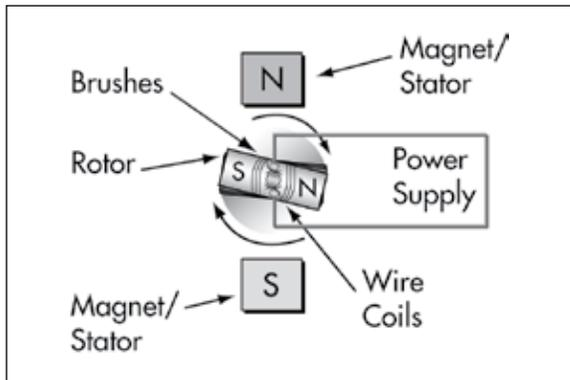

Figure 3- DC motor
Direct current (DC) motors are simple to operate and do not rely upon a control circuit. Simply attach a DC power supply to the DC motor and it will run. However, precisely controlling the motion, speed and position of DC motors is difficult. DC motors do not make finite steps and need additional components to control speed. The DC motor either spins or doesn't spin, and lacks the inherent position and speed control of the stepper motor. Like a stepper motor, DC motors have stators and rotors. But unlike a stepper motor, the rotor motion does not follow sequentially-magnetized stators. Instead, the stators are fixed magnets. When current is supplied to wire coils that are wrapped around the ends of the rotor, a magnetic field is created, causing the rotor to move. Figure 3 shows the basic parts of a simple DC motor.